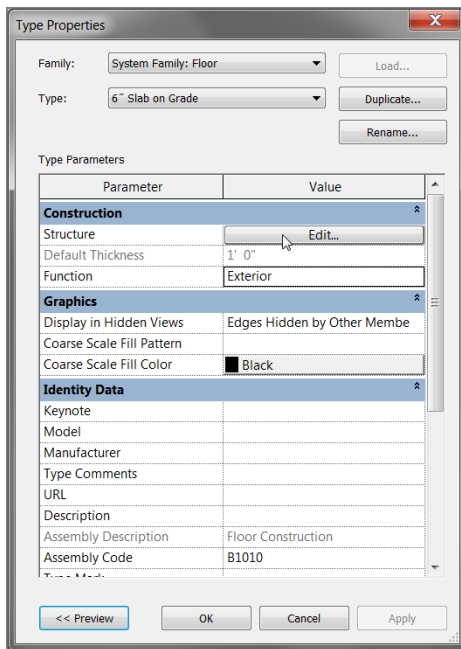

FIGURE 6.5 : Clicking the Edit button to access the structure of the floor
9. Change Function to Exterior, as shown in Figure 6.5.
10. In the Structure row, click the long Edit button (see Figure 6.5).